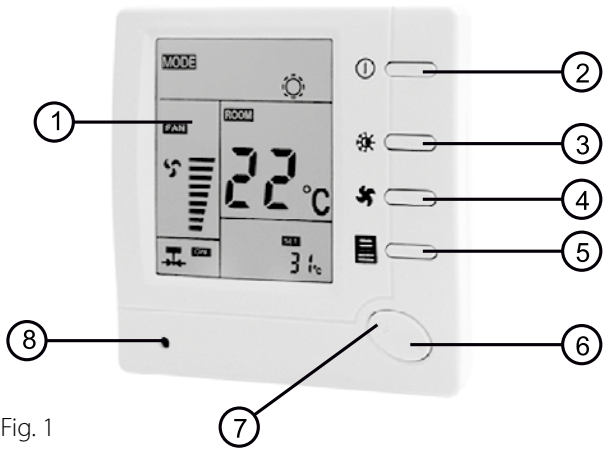
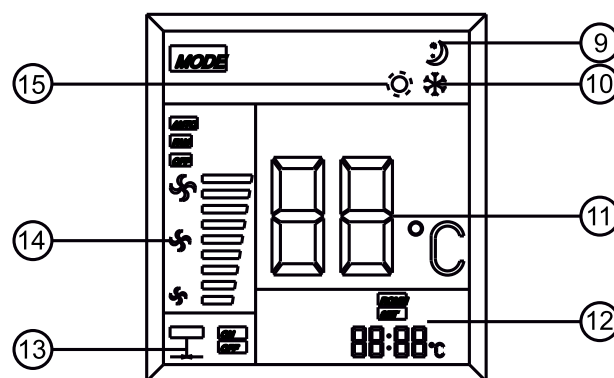

Fig. 1
Fig. 2
Display (Fig. 2):
Switch on the temperature controller by pressing the power button (2). Press the fan speed selection button. The display will show one of the characters (14 in Fig. 2) or AUTO. This means that the fan will rotate at HI (high), MED (medium), LOW or AUTO (automatic mode) speed. If AUTO mode is selected, the fan speed will vary according to the difference between the actual room temperature and the set temperature. If the room temperature is more than 3 degrees above the set temperature when cooling or more than 3 degrees below the set temperature when heating, the fan will run at its highest speed. If the room temperature is 2-3 degrees higher than the set temperature for cooling or 2-3 degrees lower than the set temperature for heating, the fan will run at medium speed. If the room temperature is 0-1 degrees above the set temperature when cooling or 0-2 degrees below the set temperature when heating, the fan will run at low speed.
Set the heating operation with the mode button (15 in Fig. 2). Press "+" to increase the control temperature value. If the room temperature is lower than the set temperature, the heating system will start. Press "-" to decrease the control temperature value. If the room temperature is higher than the set temperature, the heating system will stop.
Set the cooling operation with the mode button (10 in Fig. 2). Press "-" to decrease the control temperature value. If the room temperature is higher than the set temperature, the cooling system will start.
Press the button to switch to the night mode (5 in Fig. 1). The night mode symbol (9 in Fig. 2) appears. This mode will be active for 8 hours and the temperature controller will control heating or cooling according to the schedule below. Press the night mode button again, the corresponding symbol will disappear, which means that the night mode is cancelled.
Setting the control modes allows you to set certain operating characteristics of the temperature controller for the automatic mode, according to your requirements. Switch off the temperature controller by pressing the power button then press and hold the night mode button (5, Fig.1) for at least 4 seconds until the display switches on. This means that you have entered the first menu control mode setting item. There are a total of 4 of these items, which are shown on the display accordingly. The relevant menu item is selected by pressing the button (5). In each menu item, use the "+" or "-" button to change the settings. To exit the menu and return to normal operation, switch off the temperature controller by pressing the power button and switch it on again.